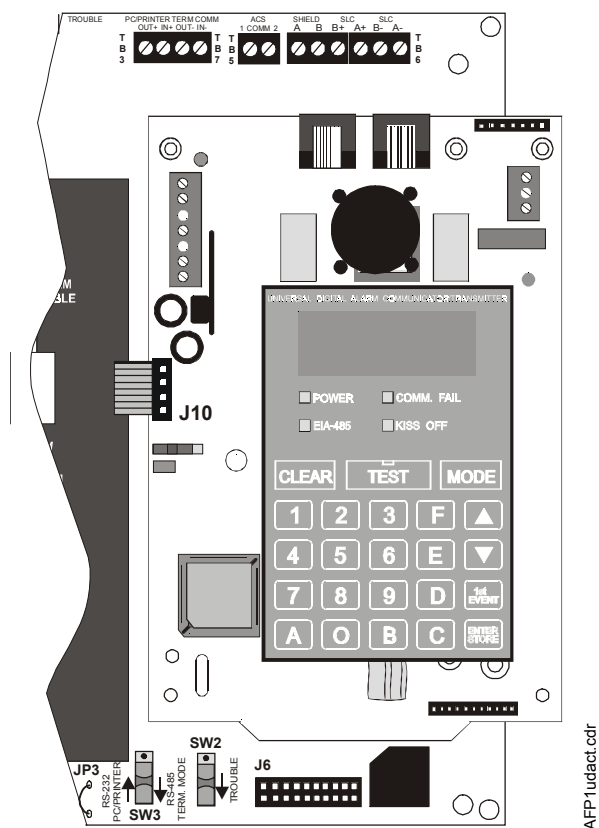

Figure 27 Internal installation of UDACT
- **UDACT** - This unit is to be installed in accordance with the *UDACT Instruction Manual*. See Figure 27 on page 90 for an illustration of an internal installation of the UDACT.